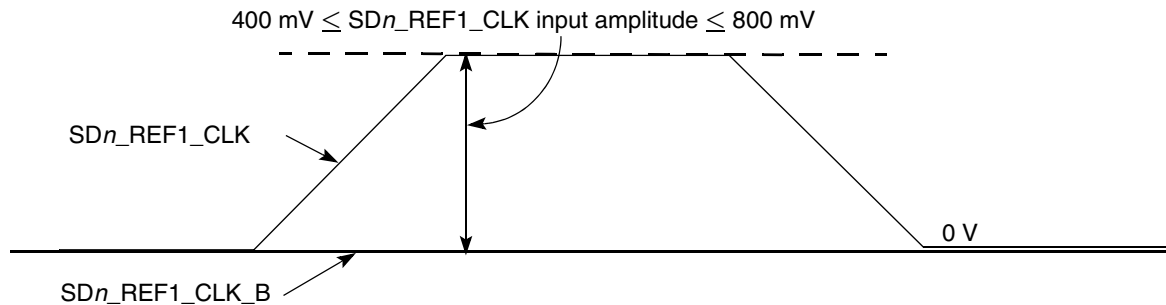

Figure 36. Single-ended reference clock input DC requirements
- The SDn_REF1_CLK input average voltage must be between 200 and 400 mV. Figure 36 shows the SerDes reference clock input requirement for single-ended signaling mode.